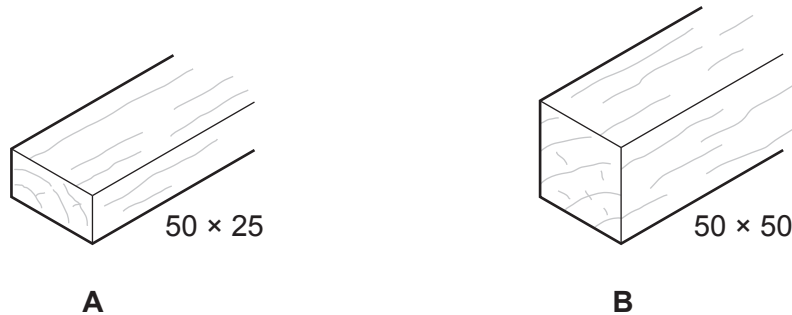

Fig. 1.1
- 1 Fig. 1.1 shows two standard timber sections, **A** and **B**.